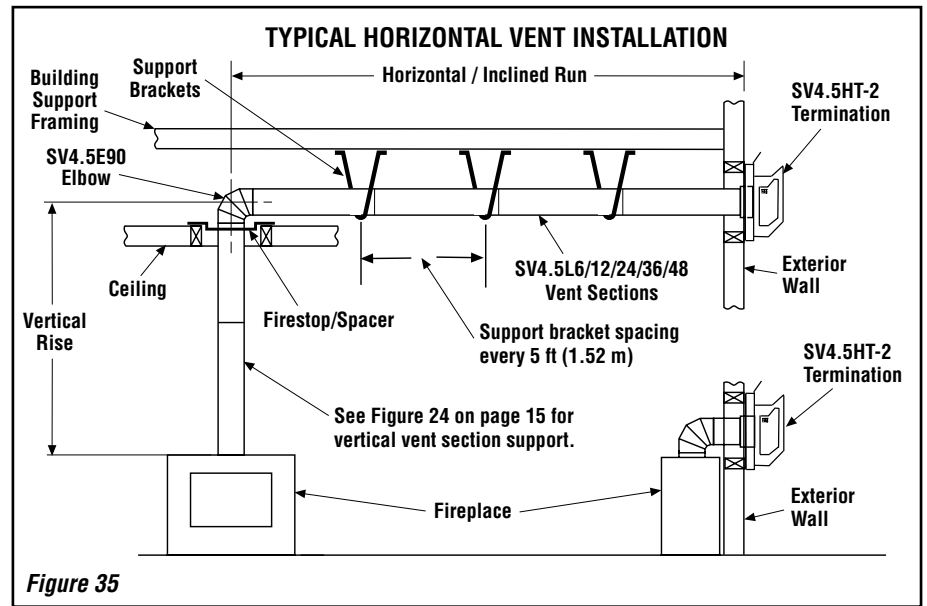

Figure 35
Figures 35, and Figures 39 to 44 on pages 21 to 23 and their associated Horizontal Vent Table illustrate the various horizontal venting configurations that are possible for use with these appliances. **Secure Vent** pipe applications are shown in these figures; **Secure Flex** pipe may also be used. A Horizontal Vent Table summarizes each system's minimum and maximum vertical and horizontal length values that can be used to design and install the vent components in a variety of applications.
**I. Continue installation of horizontal/inclined sections -** Continue with the installation of the straight vent sections in horizontal/inclined run as described in **Step E**. Install support straps every 5 ft. (1.52 m) along horizontal/inclined vent runs using conventional plumber's tape. See **Figure 35**, it is very important that the horizontal/inclined run be maintained in a straight (no dips) and recommended to be in a slightly elevated plane, in a direction away from the fireplace of 1/4" rise per foot (20 mm per meter) which is ideal, though rise per foot run ratios that are smaller are acceptable all the way down to at or near level. Use a carpenter's level to measure from a constant surface and adjust the support straps as necessary.